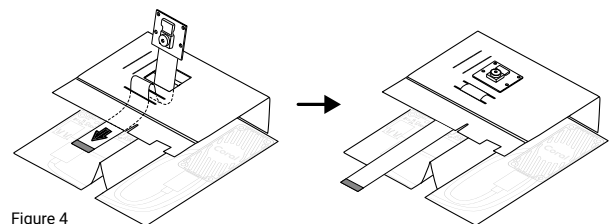

Figure 4
- 14 Pick up your Pi Camera and weave the flat cable down the camera hole, up the nearest slit, and back down, as shown in figure 4. Pull the cable until the camera is flat on the cardboard, facing up.
NOTE: You can orient the camera vertically or horizontally, based on which pair of cable slits you use. (Figure 4 shows it as vertical.)